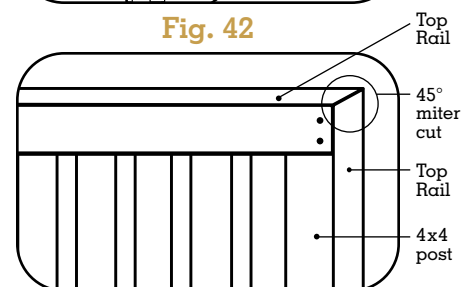

Fig. 44
- The Top Rail can be miter-cut at a 45° angle at the end of a Rail section and matched with another Top Rail to create a seamless Rail section end. Allow the Top Rail 45° cut to overhang the 4x4 post and match another Top Rail at the cut and secure it into the 4x4 post (Fig. 44).